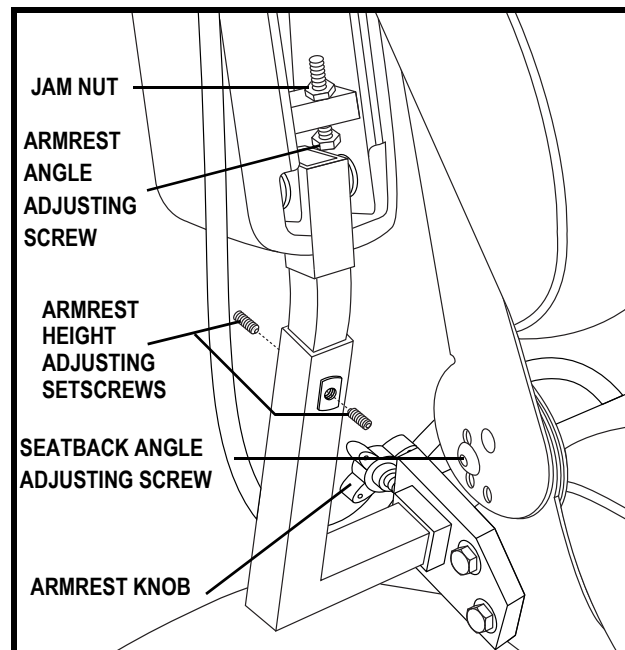

Figure 17. Seatback and Armrest Adjustments
1. Remove the seatback angle adjustment screws on both seat hinges. See figure 17.
1. Locate the two armrest knobs on each side of the armrest receiver bracket. See figure 17.
2. Loosen the locking nuts. See figure 17.
3. Loosen the armrest angle adjustment screw. See figure 17.